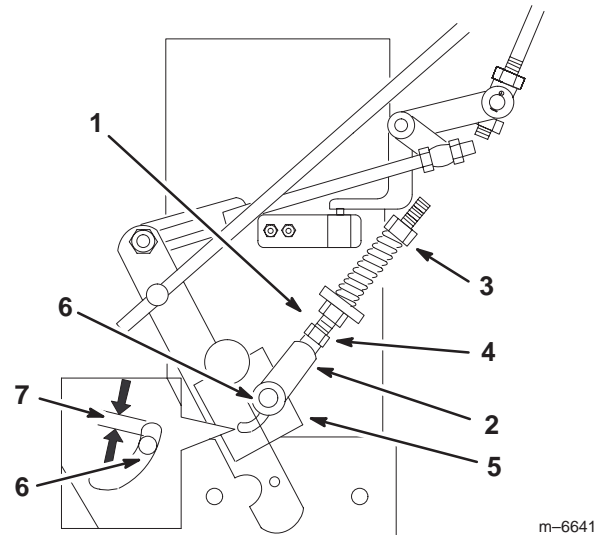

Figure 50
3. Loosen the nut against the yoke (Fig. 50).
4. Adjust the length of the neutral stud and yoke assembly so the clevis pin does not contact the back of the slot in the control arm bracket (Fig. 50).
5. Tighten the nut against the yoke (Fig. 50).
6. If the wheel turns while holding the drive lever in neutral position, the neutral stud needs to be adjusted (Fig. 50). If the wheel does not rotate, then go to step 12.
8. Adjust the adjustment stud until the respective drive wheel stops while holding the drive in neutral position (increase resistance) (Fig. 50).
9. Turn the adjusting bolt approximately 1/4 turn clockwise if the wheel is turning in reverse and turn the bolt approximately 1/4 turn counter-clockwise if the wheel is turning forward (Fig. 50).